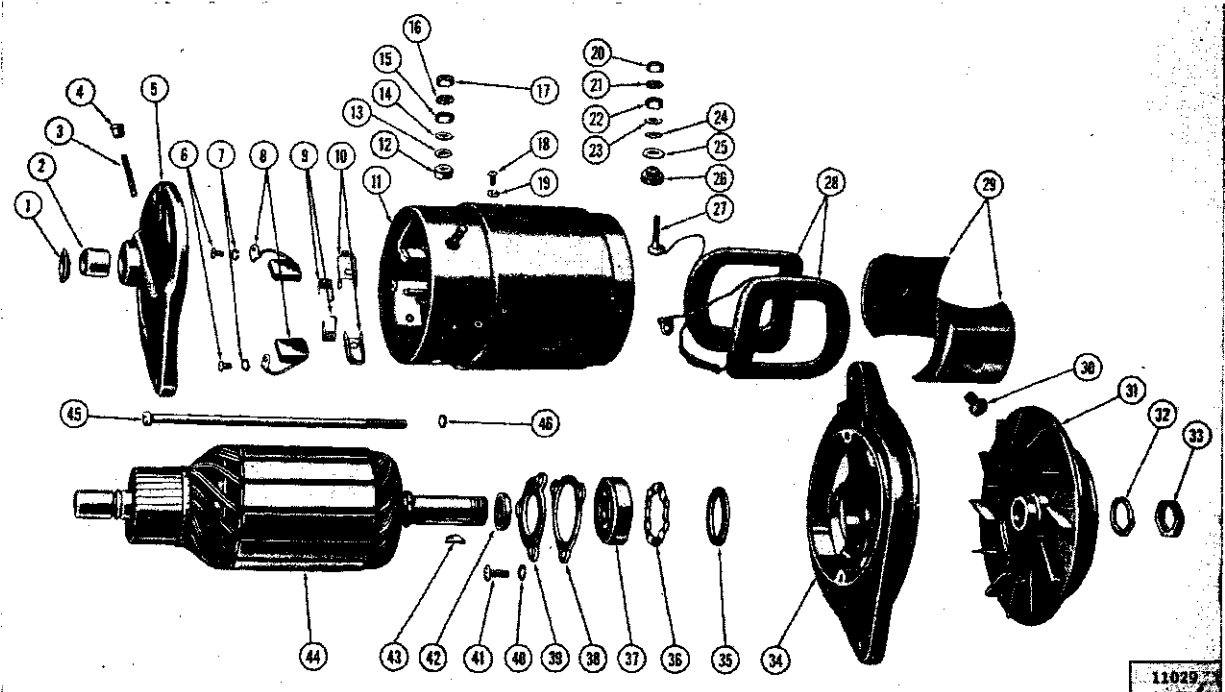

FIG. H-20—GENERATOR
- Refer to Fig. H-20;
Install the felt grease retainer and washer in the drive end head. See Fig. H-20. Check the bearing to be sure it is clean and fill it one-half full with a high melting point grease. Install the bearing and also install the inside felt washer and attach the bearing retainer with the lockwashers and screws. Place the drive end head over the front end of the armature shaft. Install the Woodruff key in the armature shaft and install the drive pulley, being sure the key is in position. Secure in position with the washer and nut. Place the assembly on